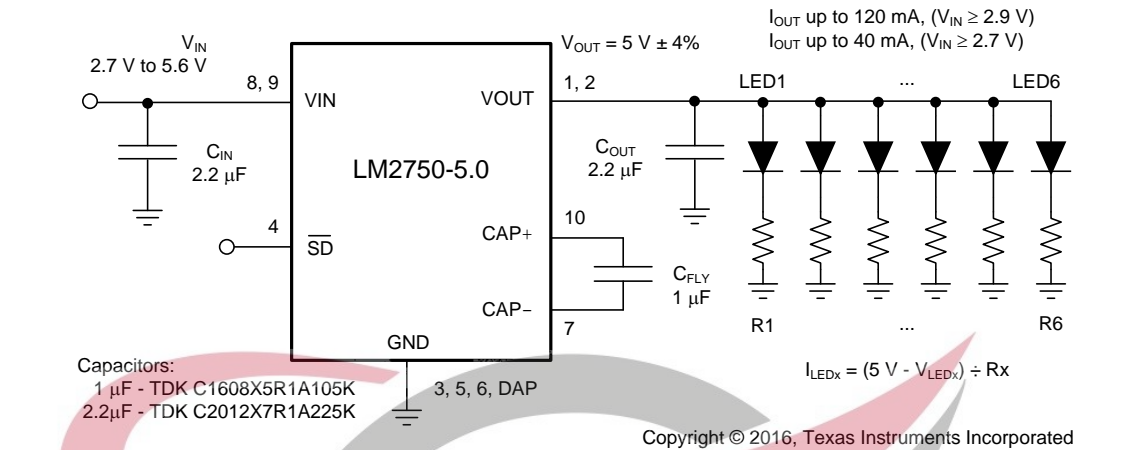

Figure 15. LM2750-5.0 LED Drive Application Circuit
The LM2750 is an excellent device for driving white and blue LEDs for display backlighting and other general-purpose lighting functions. The circuits of Figure 15 and Figure 16 show LED driver circuits for the LM2750-5.0 and the LM2750-ADJ, respectively. Simply placing a resistor (R) in series with each LED sets the current through the LEDs: